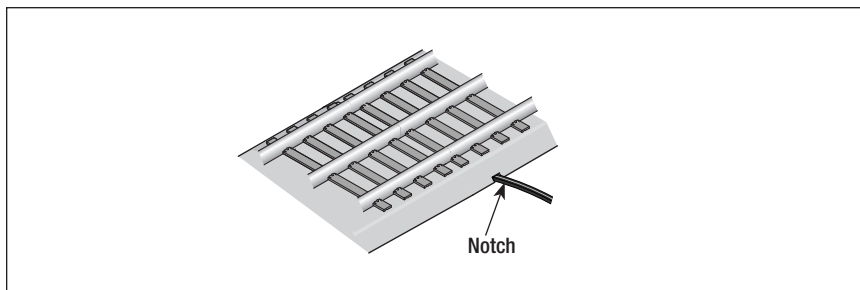

Figure 3. Positioning the wires
4. Feed the wires through the notch in the roadbed. Refer to Figure 3.